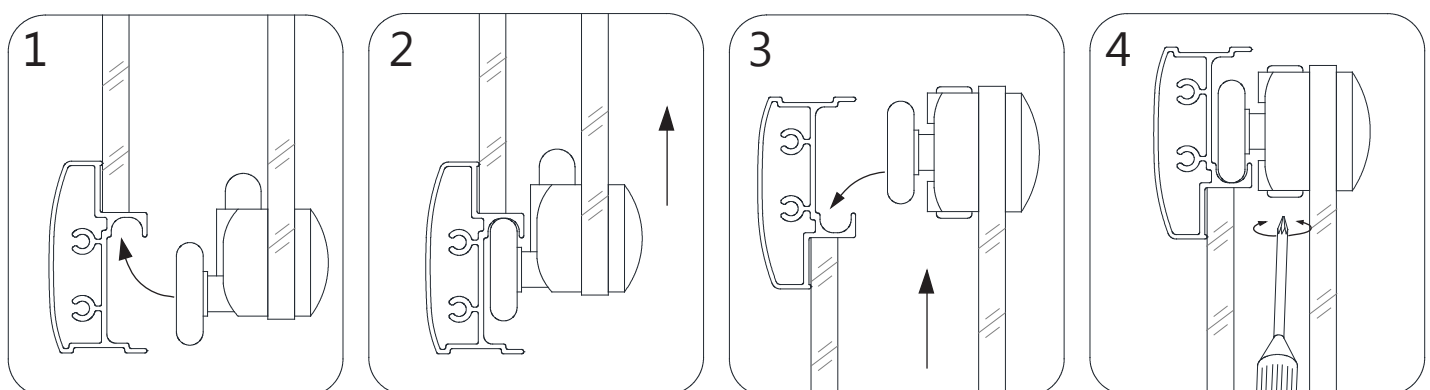

Fig 13
13. From inside of the shower, insert the bottom **Wheel Assemblies (#17)** into the **Bottom Guide Rail (#03)**, lift the door up and snap the top **Wheel Assemblies (#17)** into the **Top Guide Rail (#03)**. Test the operation of the door, and if necessary, use a #2 Phillips screwdriver (**do not use a power screwdriver**) to adjust the upper wheels so the door rolls smoothly and the closes tight. **(Fig 13)**